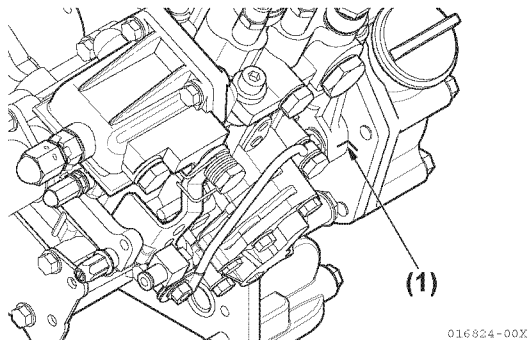

Figure 6-62
21. Locate the mark stamped into the upper outside mounting boss of the fuel injection pump. Highlight this mark and make a corresponding mark on the gear case (**Figure 6-62, (1)**).